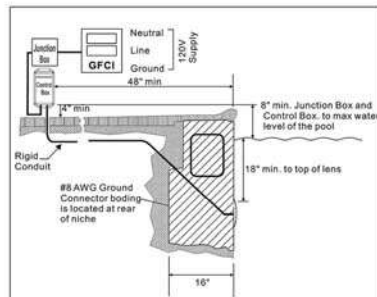

Figure 2
2. Drill 1 hole on the flat place you intend to mount the pool light, use 1 expansion screw to fix the light. treat the light with silicon around the light.( you may need to cut off the bolt that is for wet niche install.) See Figure 2